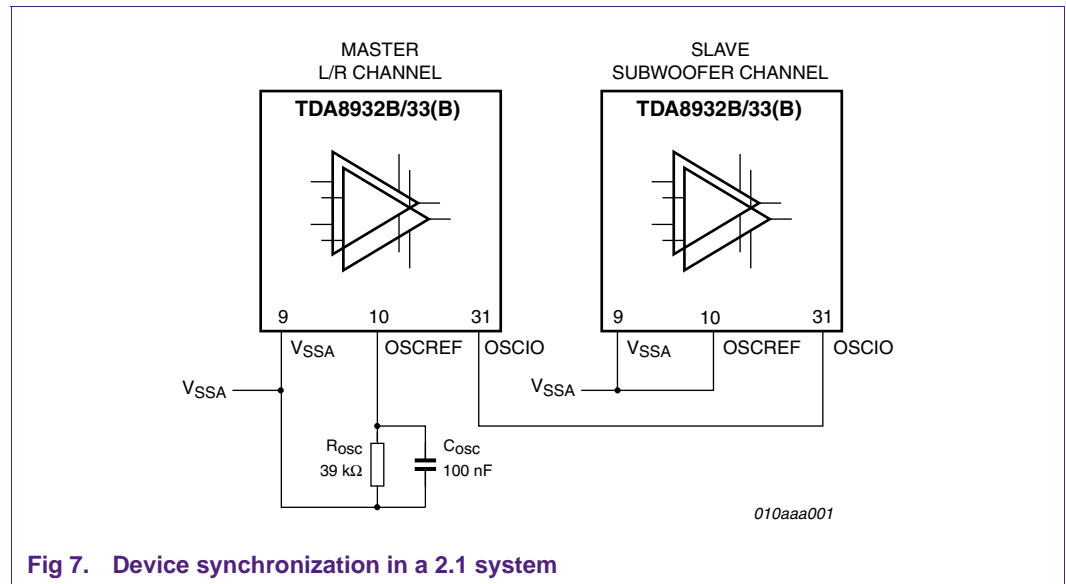

Fig 7. Device synchronization in a 2.1 system
Synchronization is recommended to avoid possible audible beat tones from the speakers when two or more TDA8932B/33(B) devices are used in the same application. Synchronization can be achieved by connecting all OSCIOs (pin 31) together and configuring one of the devices as master, while the other TDA8932B/33(B) device is configured as slave (see Figure 7).